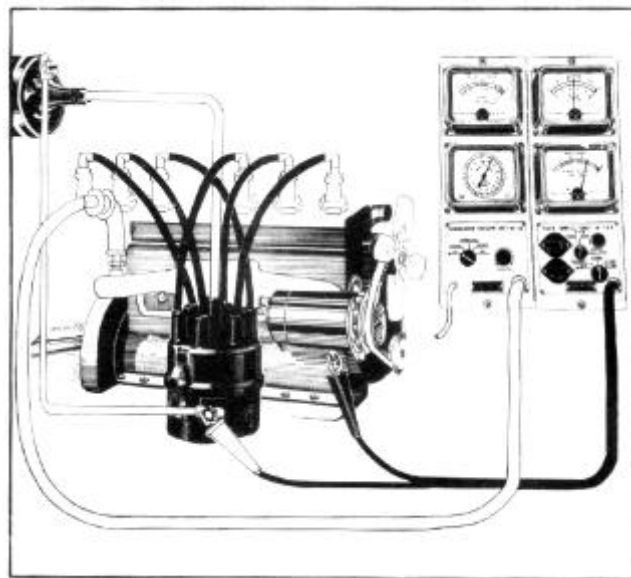

FIGURE 9
3. Connect one lead of tachometer to the distributor primary terminal and the other lead to engine for ground, Figure 9. Adjust carburetor to obtain a smooth idle at 540 to 580 R.P.M. (If car is equipped with Hydra-Matic Transmission, set idle at 490-510. Vacuum readings at sea level. may be interpreted generally as follows: